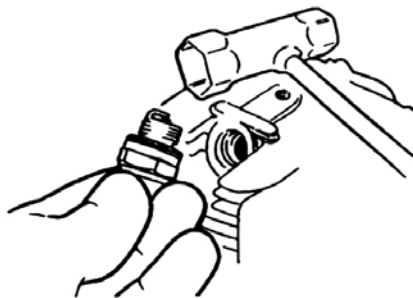

Figure 15
1. Disconnect the spark plug lead, and then use the spark plug wrench to remove the spark plug (turn counterclockwise to remove). See Figure 15.